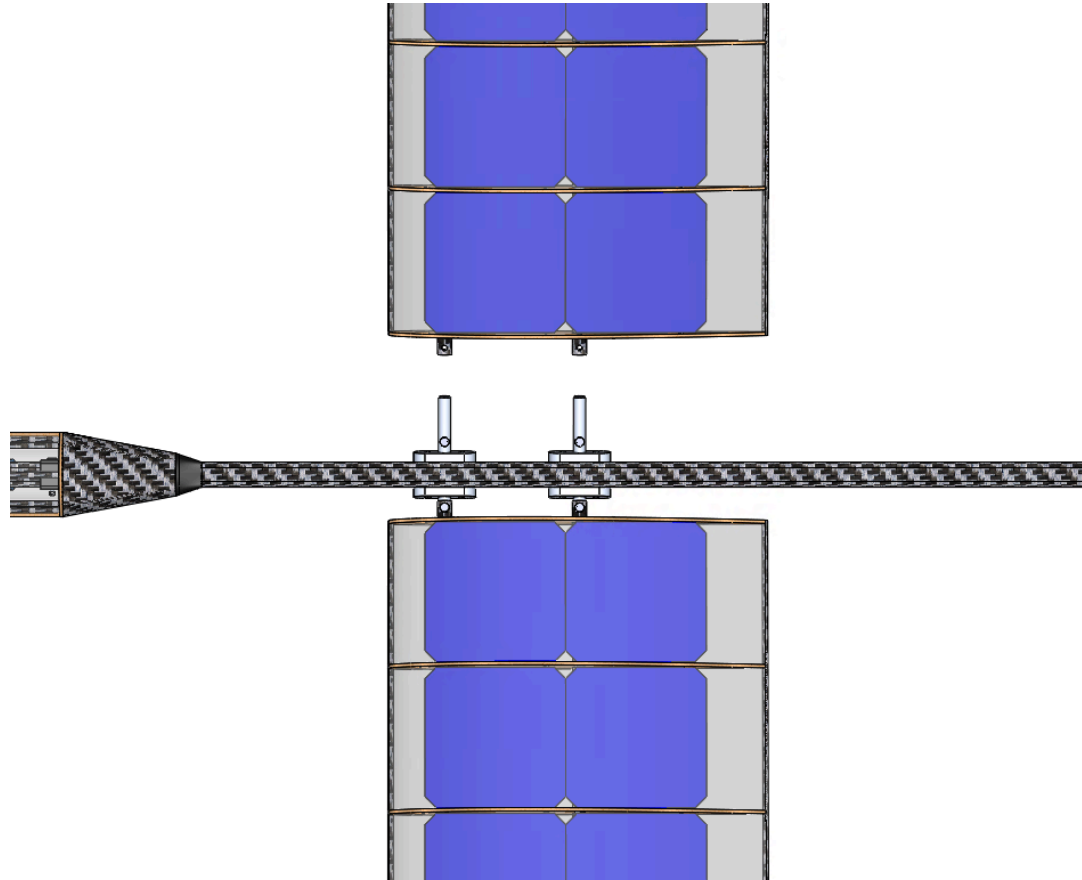

Figure 16 -Final Assembly 1
7. Slide each wing onto the Wing Mounting Arms as seen in Figure 16.